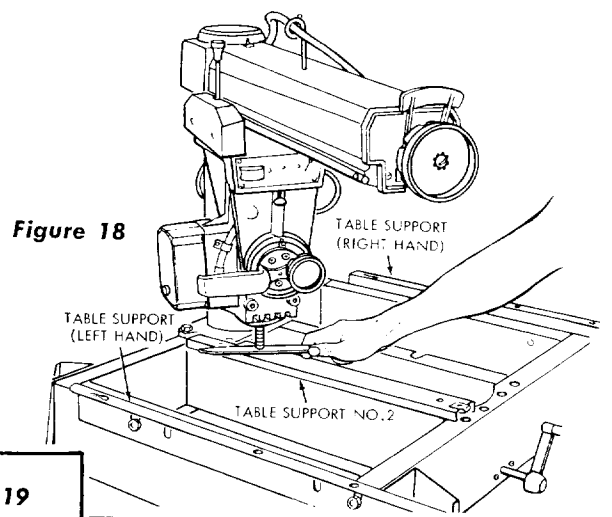

Figure 18
- g. Remove the arbor wrench and position the motor until end of shaft is directly over the rear position of table support No. 2. (See figure 18.) With the attaching screw hand tight, tap the rear of No. 2 table support upward or downward until the end of motor shaft just touches the arbor wrench, held between the end